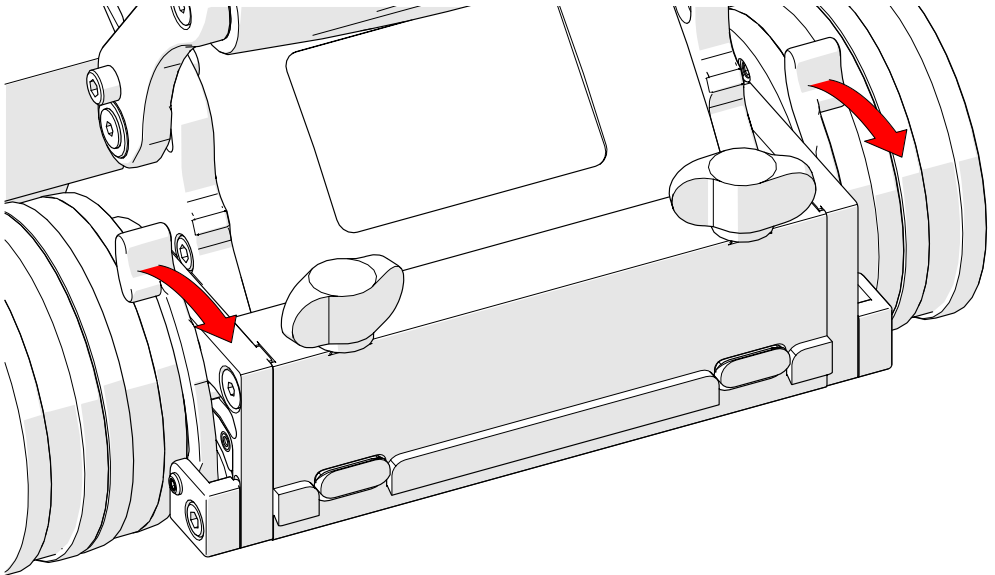

Fig. 220 - Front swivel adjustment levers
2. Release the front swivel adjustment levers (Fig. 220), at the front of the crawler, to position the front swivel mount.